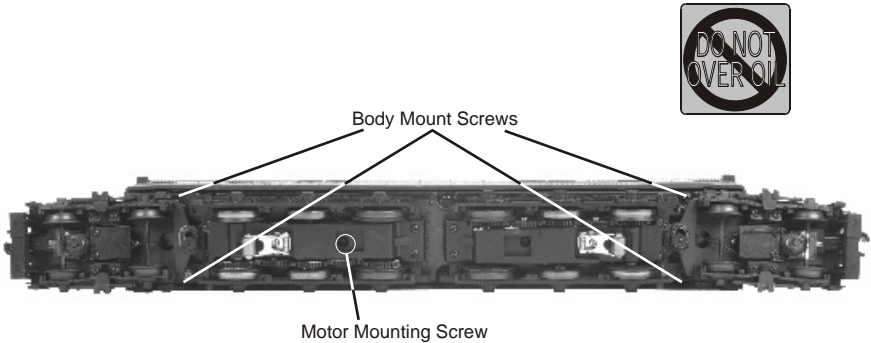

Figure 6. Body Removal Screw Locations
2. Once the cab is removed, remove the trucks by unscrewing the black Phillips motor mount screw located on the underside of the drive trucks (see Fig. 6).
First, remove the truck sides from the truck block by unscrewing the mounting screws as noted in Figure 6.